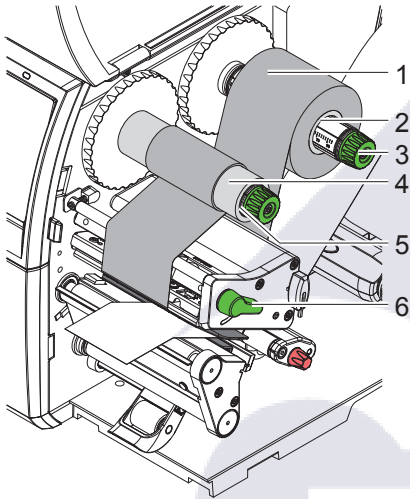

Figure 19 Loading transfer ribbon
2. Turn lever (6) counterclockwise to lift the printhead.
3. Slide transfer ribbon roll (1) onto the ribbon supply hub (2) so that the color coating of the ribbon faces downward when being unwound.
5. Hold transfer ribbon roll (1) firmly and turn knob on ribbon supply hub (3) counterclockwise until the transfer ribbon roll is secured.
6. Slide suitable transfer ribbon core (4) onto the transfer ribbon take-up hub (5) and secure it in the same way.
7. Guide transfer ribbon through the print unit as shown in Figure 19.
8. Secure starting end of transfer ribbon to the transfer ribbon core (4) with adhesive tape. Ensure counterclockwise rotation direction of the transfer ribbon take-up hub here.
9. Turn transfer ribbon take-up hub (5) counterclockwise to smooth out the feed path of the transfer ribbon.
10. Turn lever (6) clockwise to lock the printhead.